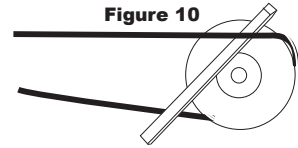

Figure 10
4. Always loosen tension enough to instal belts without stretching. Do not force belt(s) see Figure 10. Forcing belts will break the cords and cause belt failure.